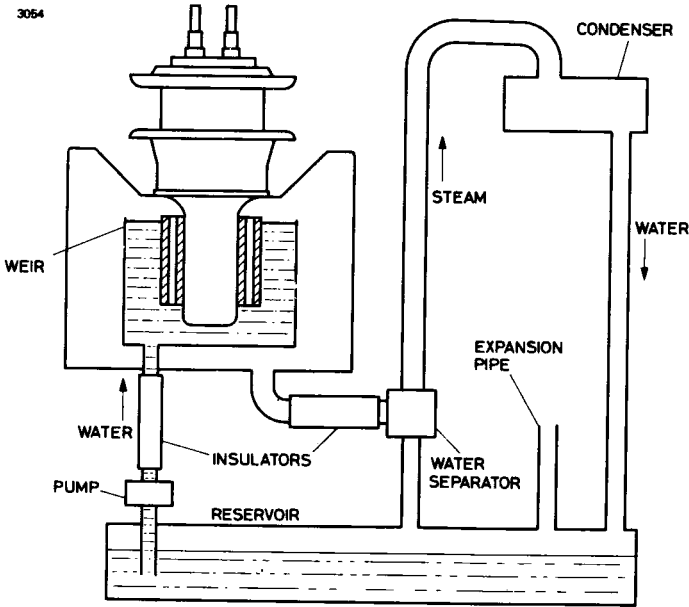

Fig. 3. Downward steam exit to separate condenser
b) downward steam exit (see Fig. 3). This is sometimes found to give a more convenient layout of components, and it may be preferred for high frequency applications, but it requires the use of a low pressure circulating pump. The pump feeds an excess of water to the boiler, so that the water level is maintained at the top of the internal weir. One advantage of this system is that the presence of the weir makes it possible to use a single condenser for any number of valves mounted at different levels.